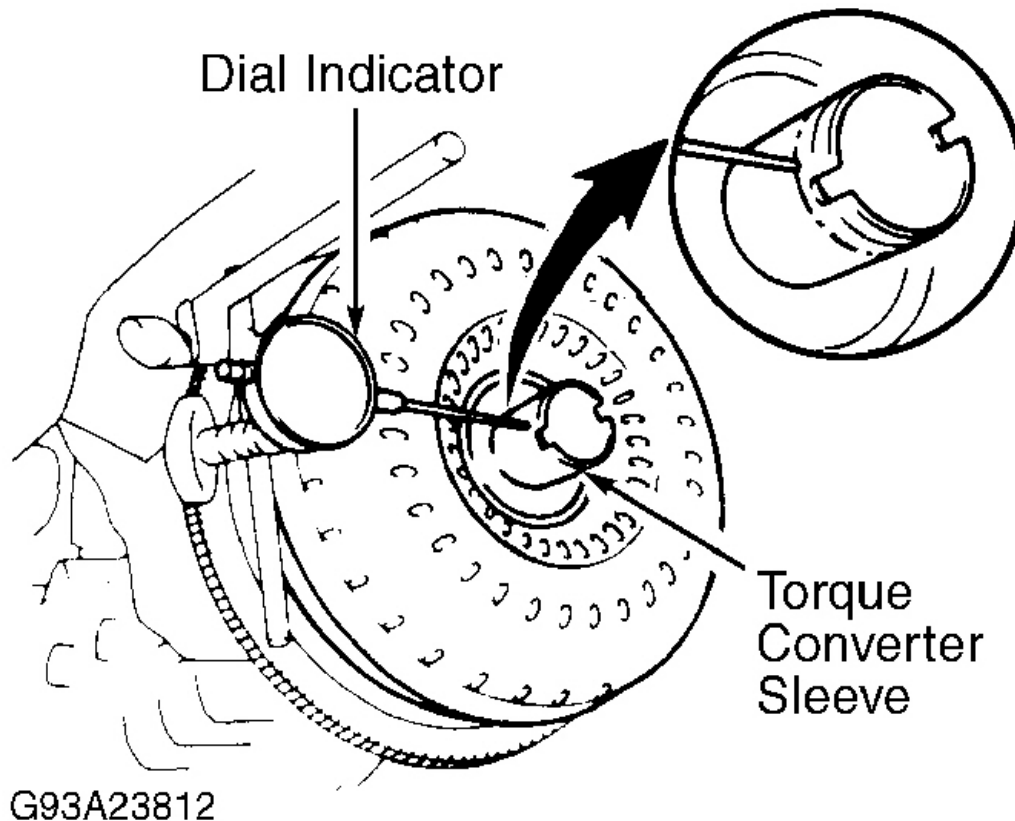

Fig. 8: Measuring Torque Converter Sleeve Runout
1. Temporarily mount torque converter to drive plate. Mount a dial indicator with needle resting on converter sleeve. See **Fig. 8** . Rotate converter. If runout exceeds .012" (.30 mm), ensure converter is properly mounted to drive plate.